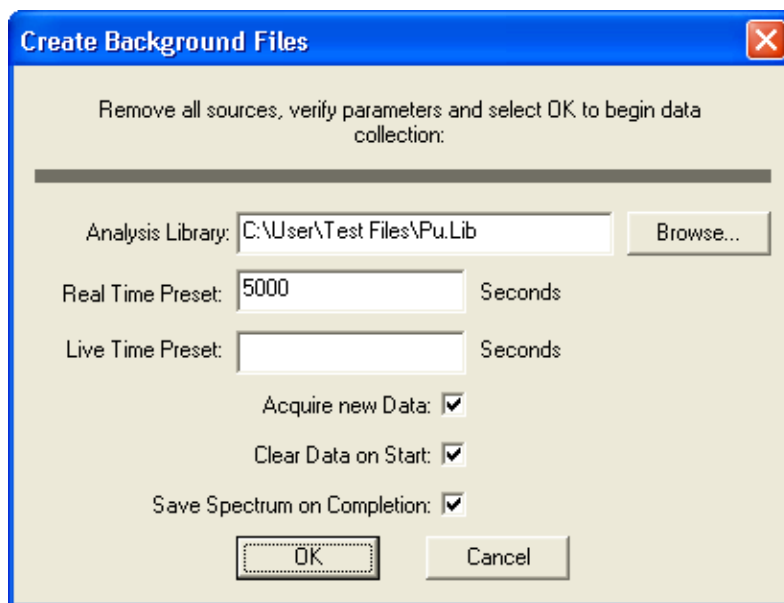

Figure 108. Creating a .PBC File from Live Spectral Data.
- Select **Create Background File...** to open the dialog shown in Fig. 108.